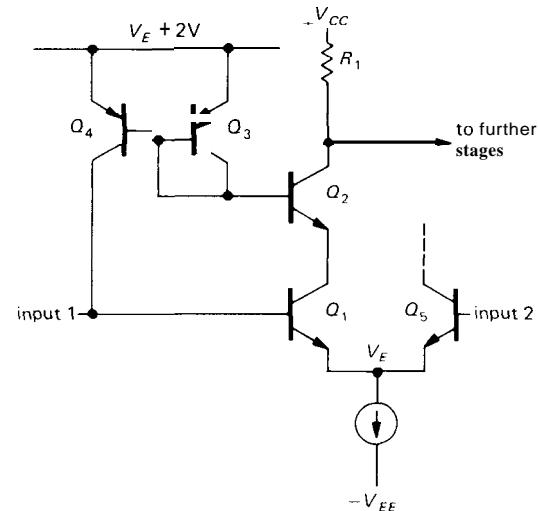

Figure 2.83. Base-current cancellation scheme, commonly used in high-quality operational amplifiers.
- (8) Several commercially available precision op-amps (e.g., the venerable OP-07 and the recent LT1012) use the circuit in Figure 2.83 to cancel input bias current (only half of the symmetrical-input